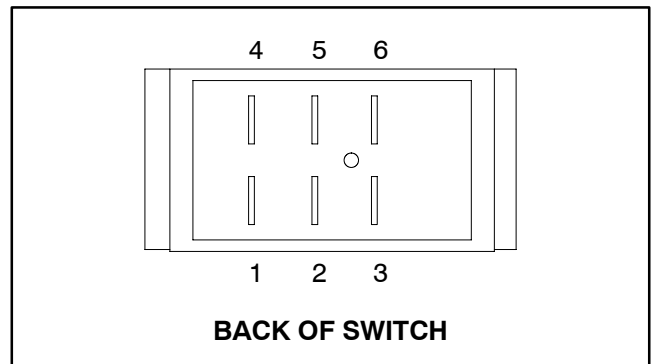

Figure 5
2. The switch terminals are marked as shown in Figure 5. In the INCREASE or boom raise position, continuity should exist between terminals 2 and 3 and also between terminals 5 and 6. In the neutral, center position, there should be no continuity between any switch terminals. In the DECREASE or boom lower position, continuity should exist between terminals 2 and 1 and also between terminals 5 and 4.